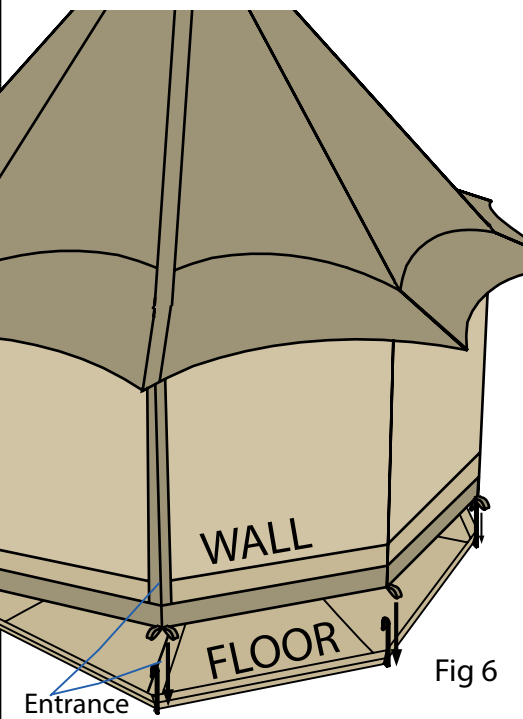

Fig 6
7. Connect the wall and the floor by placing the wall's outer bottom grommet (Fig.3 #9) over the stake, (same stake as Floor ground grommets(Fig.4 #6)). Start and end at the entrance. (Fig 6)